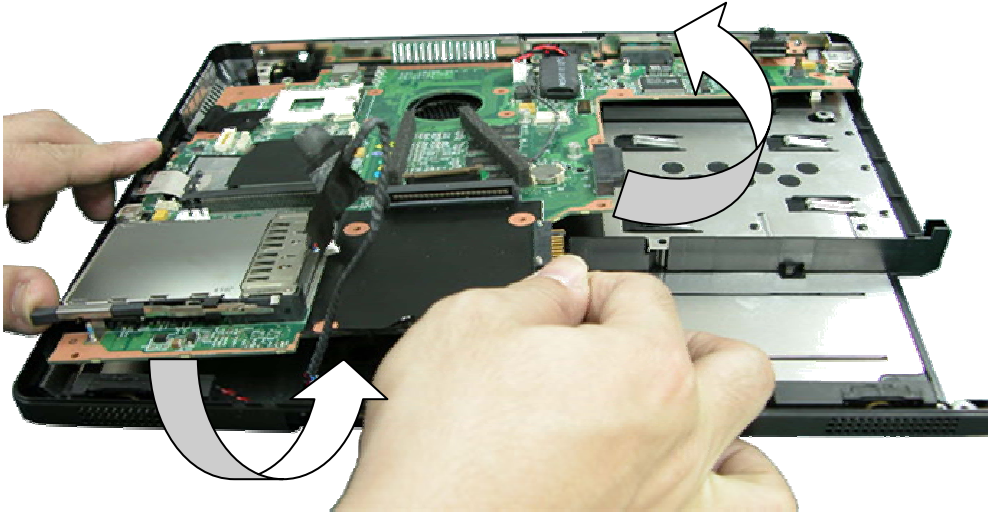

Fig. 34 Lifting up the Main Board
5. Carefully lift up the Main Board as shown in Fig. 34 and place it in safe place.